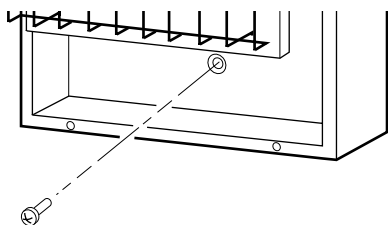

Figure 9 - Installing Bottom Mounting Screw
1. Locate bottom mounting hole. This hole is near bottom on back panel of heater (see Figure 9).
6. Insert bottom anchor screw through back panel into bottom anchor or drilled hole (see Figure 9).